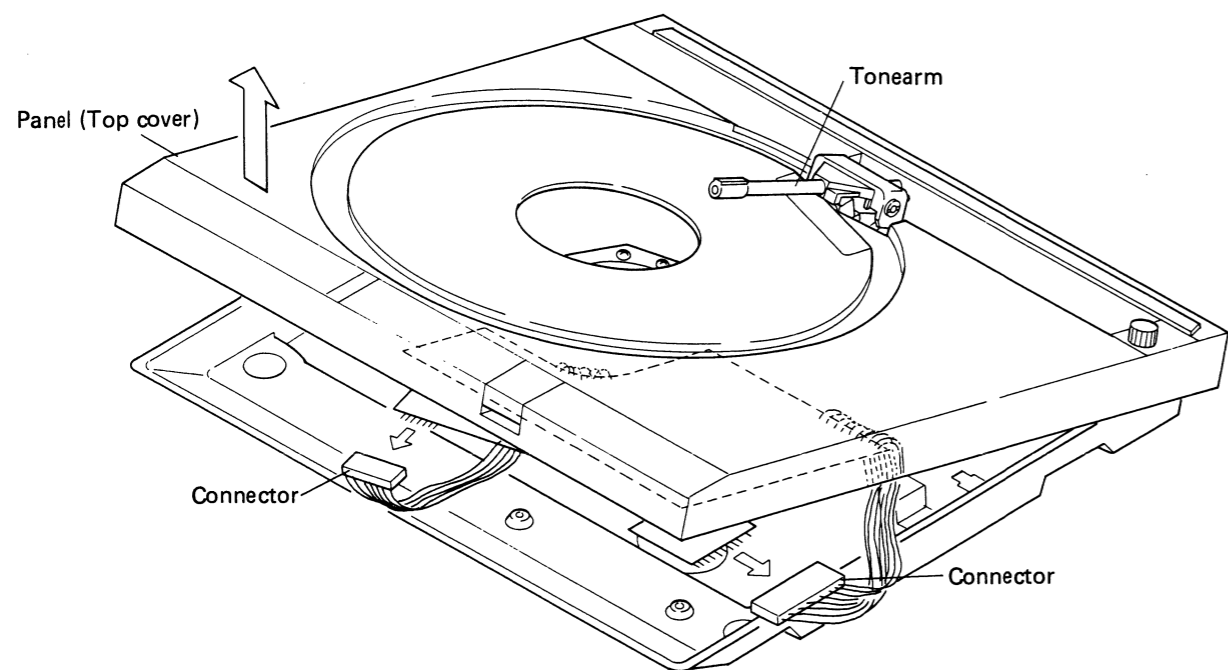

Fig. 3-5 Disconnect the two connectors
5. Raise the front part of the panel, and then by inserting a hand in between the panel and the base, disconnect the two connectors (Fig. 3-5).